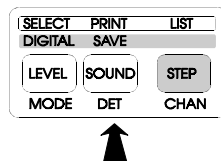

Figure 32.- Printing the tuned channel.
- 5.- To print the information relative to the tuned channel, push the **[8] SOUND (PRINT)** key, as shown in figure 32.